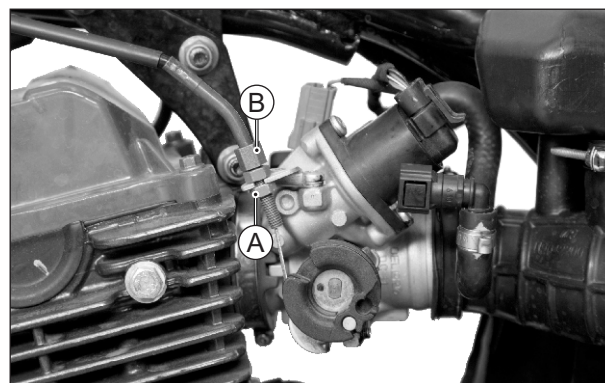

Fig. 4.9
- Fully loosen the throttle cable lock nut (A) while holding the adjuster (B). (Fig. 4.9)